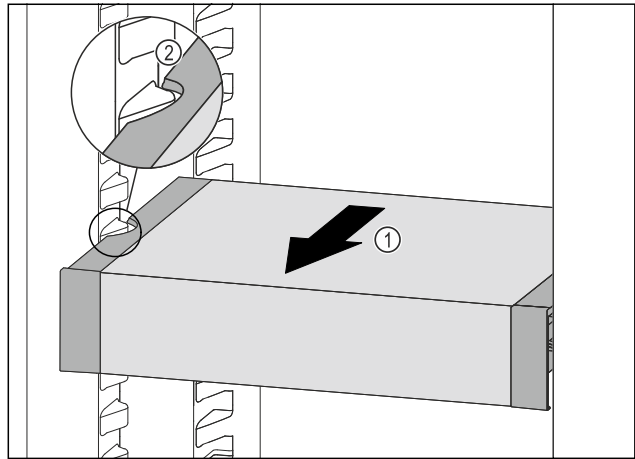

Fig. 128
- ▶ Pull VarioSafe forwards Fig. 128 (1) until the recesses in the side of the VarioSafe are at the level of the support rib in the fridge section. Fig. 128 (2)